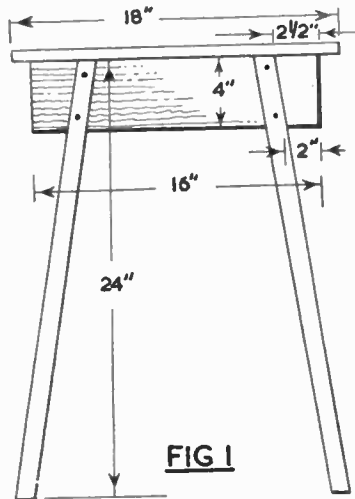

FIG 1
A side view of the table given in Fig. 1 gives dimensions and general ideas of the simple construction. It will be seen that no difficult joints are involved, and no cross rails which could be in the way of the player's feet. Apart from the top, the make up of the article involves only a box-like top, to which the legs are grooved in, and outwardly splayed, to add stability to the structure. Part of the box is shown in Fig. 2. It measures, as shown in Fig. 1, 1 ft. 4 ins. each way and is made up of ½ in. thick deal of good quality. The corner joints suggested are of the simple but effective rebated pattern shown in detail (A).